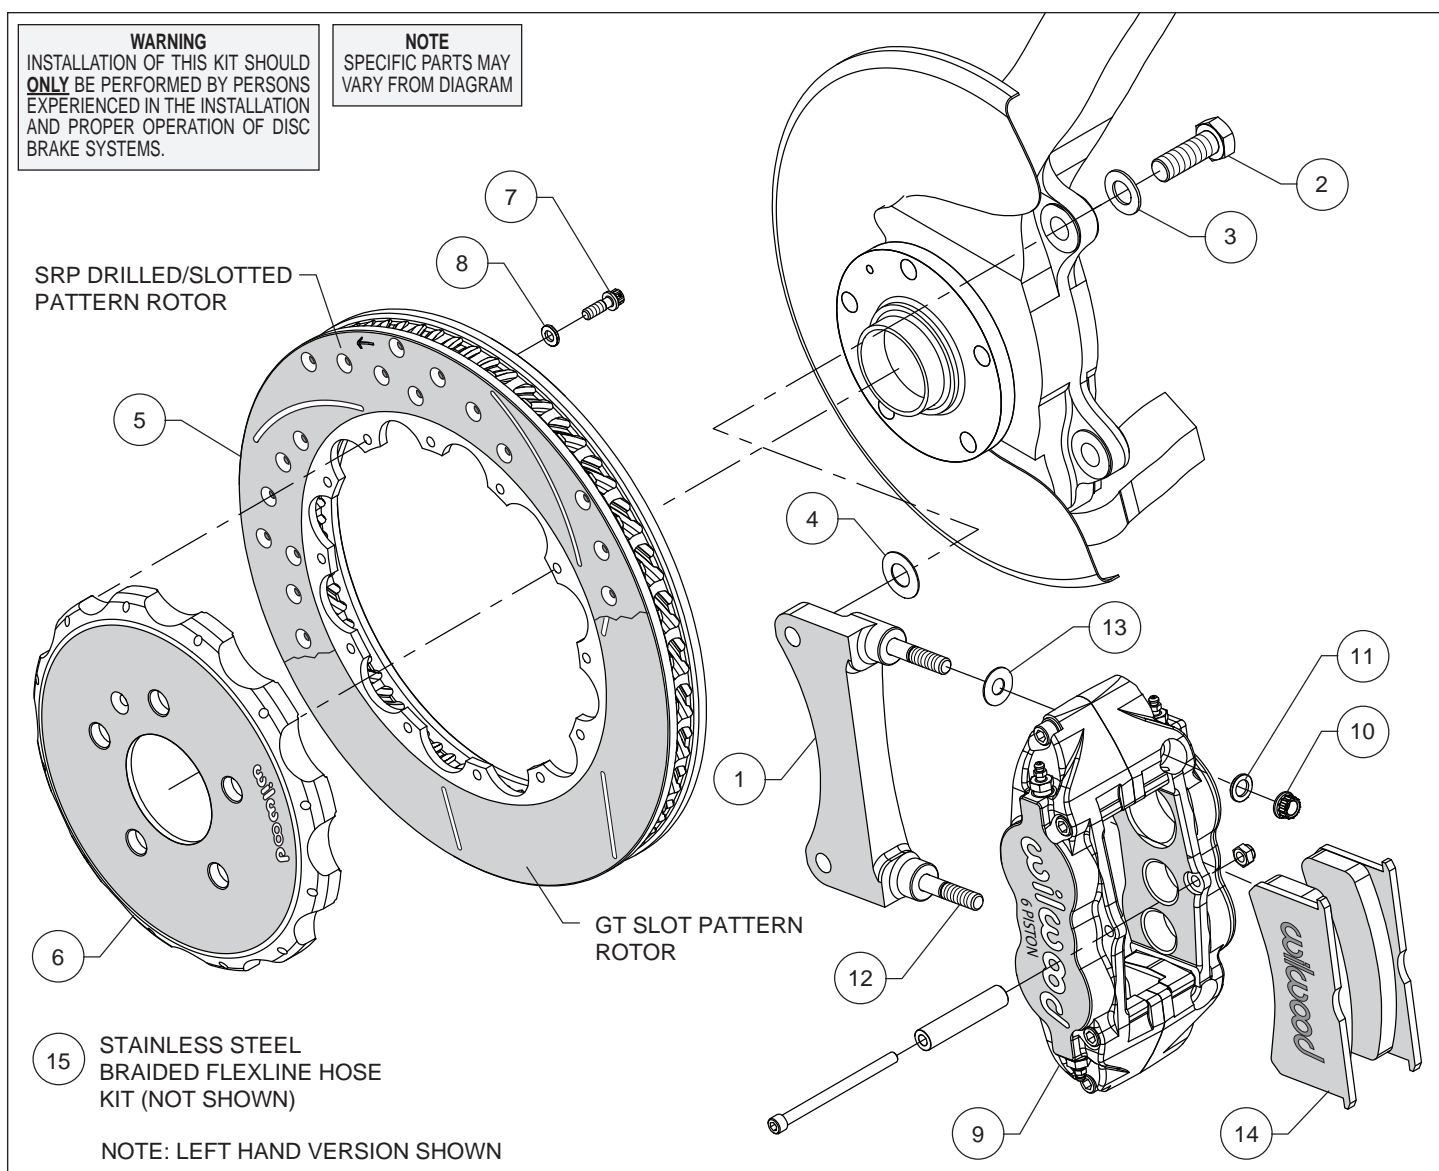
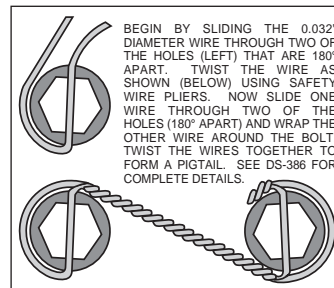

Figure 1. Typical Installation Configuration
Figure 3. Safety Wire Diagram
Assembly Instructions (numbers in parenthesis refer to the parts list and Figure 1 on the preceding pages):
- The caliper mount bracket (1) should initially be installed with clean, dry threads on the mounting bolts. Orient the bracket as shown in Figure 1 and Photo 1, and install using bolts (2) and washers (3). Initially place one .029 thick shim (4) on each bolt between the bracket and upright, Figure 1. Temporarily tighten the mounting bolts. **NOTE: The bracket must fit squarely against the mounting points on the upright.** Inspect for interference from casting irregularities, machining ridges, burrs, etc. Later, after the caliper alignment has been checked, the mount bolts will be secured using red *Loctite*® 271.
- Orient the rotor (5) and the hat (6) as shown in Figure 1 and Photo 2. Attach rotor to hat using bolts (7) and washers (8). Using an alternating sequence, apply red *Loctite*® 271 to the threads, and torque to 155 **in-lbs**. For an added measure of security, the bolts may be safety wired using standard 0.032 inch diameter stainless steel safety wire as shown in Figure 3. Please refer to Wilwood's data sheet DS-386 (available at www.wilwood.com/Pdf/DataSheets/ds386.pdf) for complete safety wire installation instructions.
- **NOTE: This kit contains distinct right and left hand calipers that must be mounted in a specific direction, as described below.** Lubricate the caliper mounting studs (12) with lightweight oil. Initially place one .035" thick shim (13) on each stud between the caliper and the bracket, as shown in Figure 1 and Photo 5. Mount the caliper (9) onto the bracket (1) using lock nuts (10) and washers (11), Figure 1. Ensure that the caliper is mounted so the largest pistons are at the rotor exit end of the caliper, in relation to the direction of rotor rotation. Temporarily tighten the lock nuts and view the rotor through the top opening of the caliper. The rotor should be centered in the caliper, Photo 6. If not, adjust by adding or subtracting shims (4) between the bracket and the upright. Always use the same amount of shims on each of the two mounting bolts. Once the caliper alignment is correct, remove the bracket mounting bolts (2) one at a time, apply red *Loctite*® 271 to the threads, and torque to 77 ft-lbs.